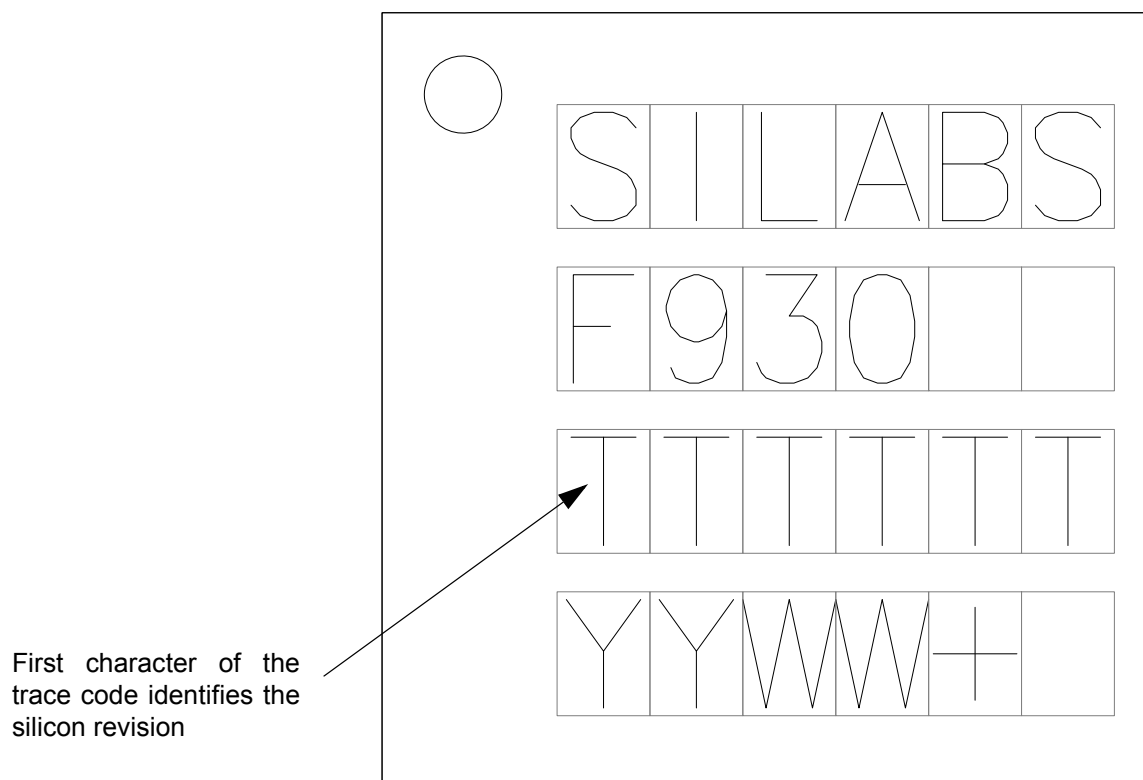
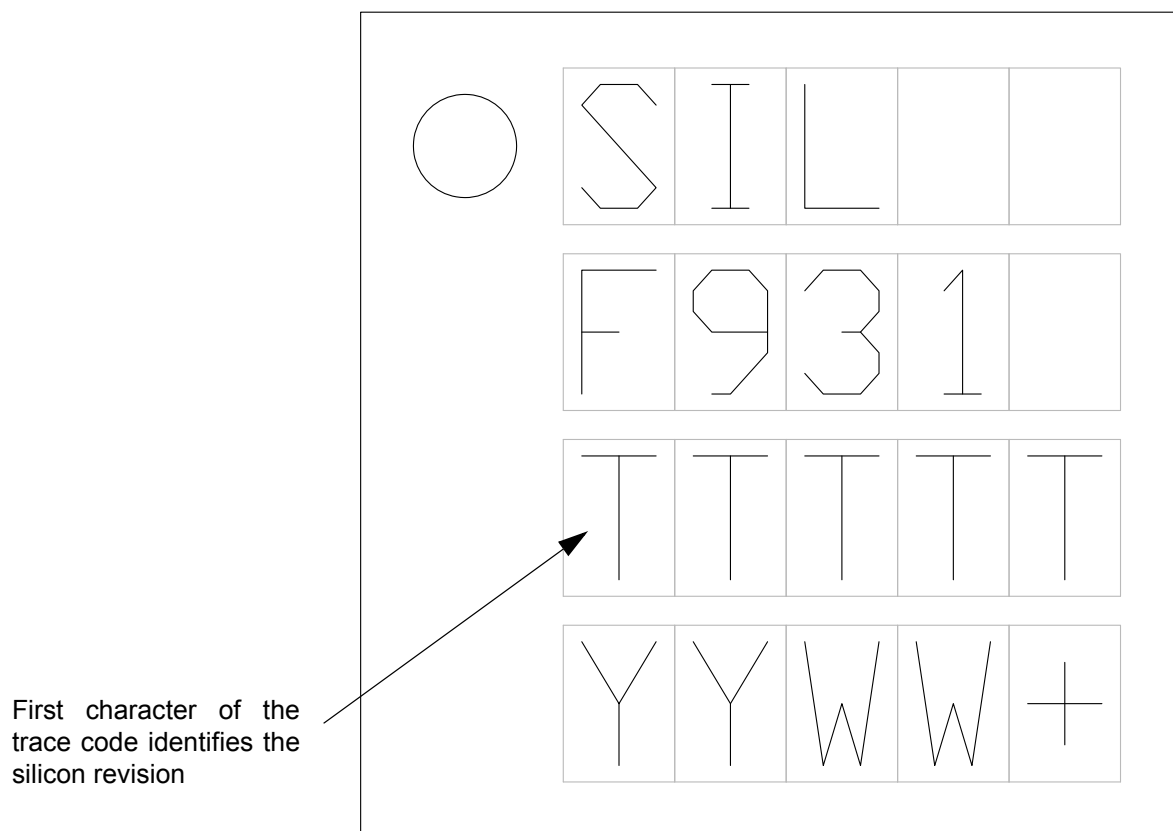
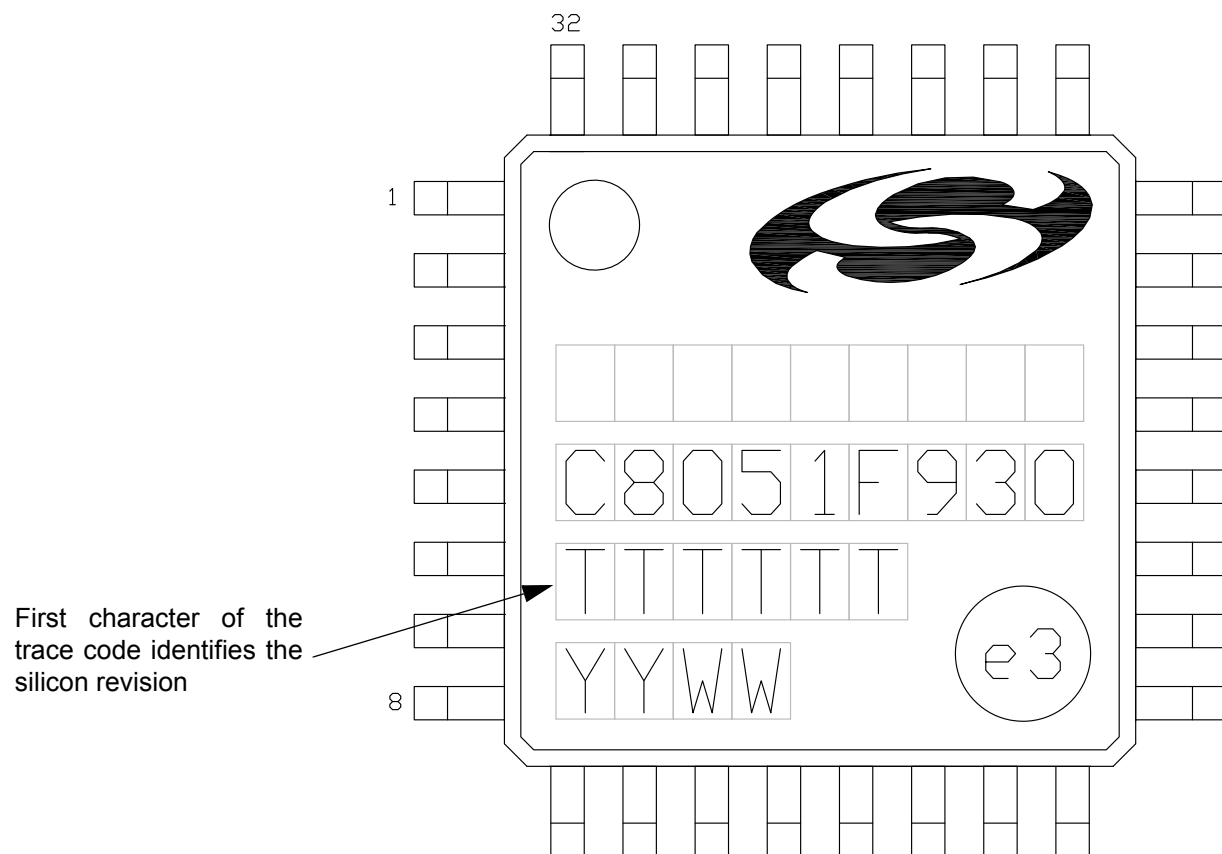

Figure 3.4. QFN-32 Package Marking Diagram
Figure 3.5. QFN-24 Package Marking Diagram
Figure 3.6. LQFP-32 Package Marking Diagram
*Note: Starting with silicon revision F, the ordering part numbers have been updated to include the silicon revision and use this format: "C8051F930-F-GM". Package marking diagrams are included as Figure 3.4, Figure 3.5, and Figure 3.6 to help identify the silicon revision.